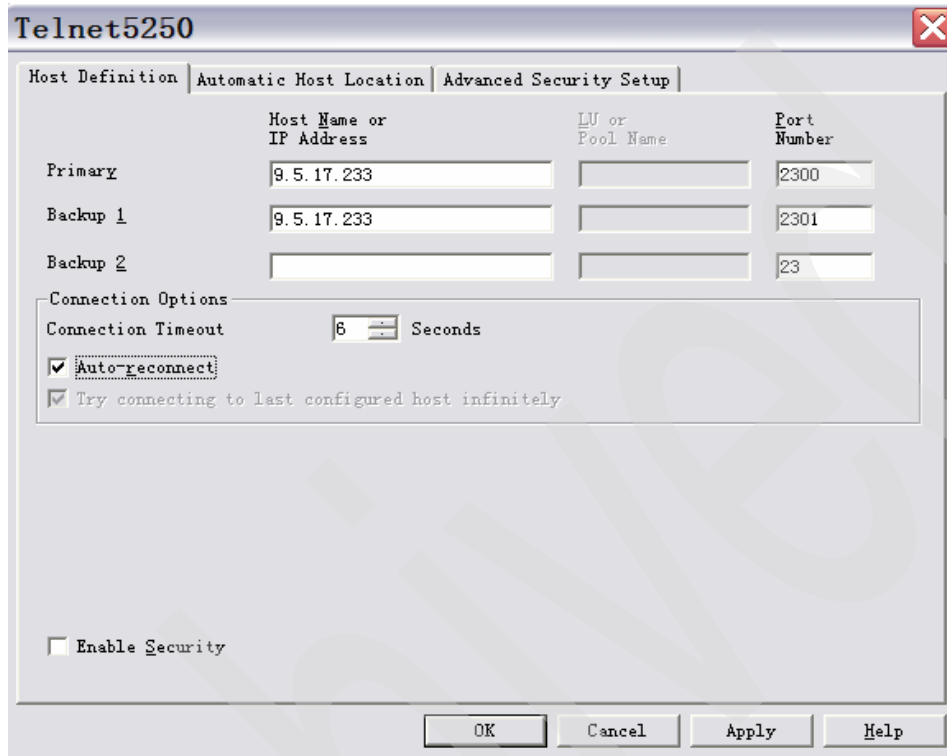

Figure 2-5 Configure 5250 IP address for remote console
2. Select **Link Parameter**. When the window in Figure 2-5 prompts you, type the HMC host name or IP address in the Host Name field and indicate the port number. Type 2300 into the port number field if you are using non-SSL or 2301 if you are using SSL. Then select **OK** to finish the configuration.